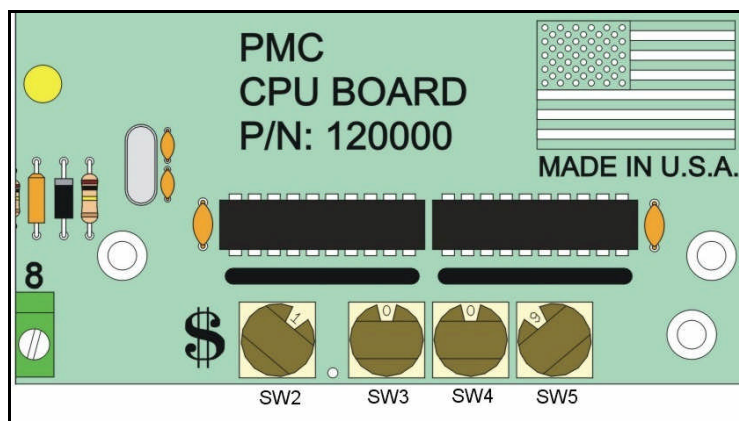

Figure 5A - Corner of CPU board showing price setting switch locations. Note that price setting only applies to RETAIL dispensers.
2. **PRICE PER VOLUME: (RETAIL versions only)** Setting the price per unit volume of product is done using four rotary switches located in the lower right corner of the board. See **Figure 5A**. SW2 sets the dollar amount, SW3, SW4 and SW5 set the 10¢, 1¢, and 0.1¢ amounts, respectively. For a price of 1.399 per gallon, switches 2 thru 5 would be set to 1, 3, 9, & 9. Note: If price is set to '0.000', the dispenser will not activate.